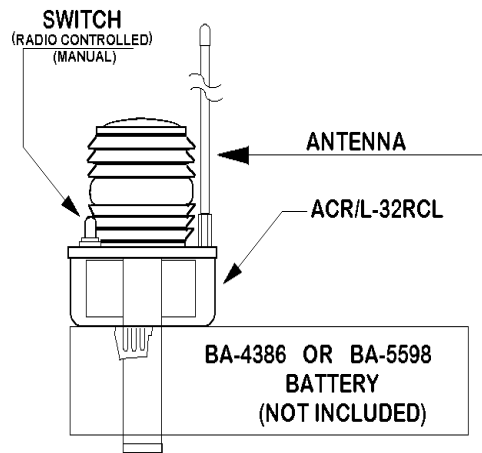

Figure 3
3. The **ACR/L-32RCL** Remote Controlled Light (See Figure 3)